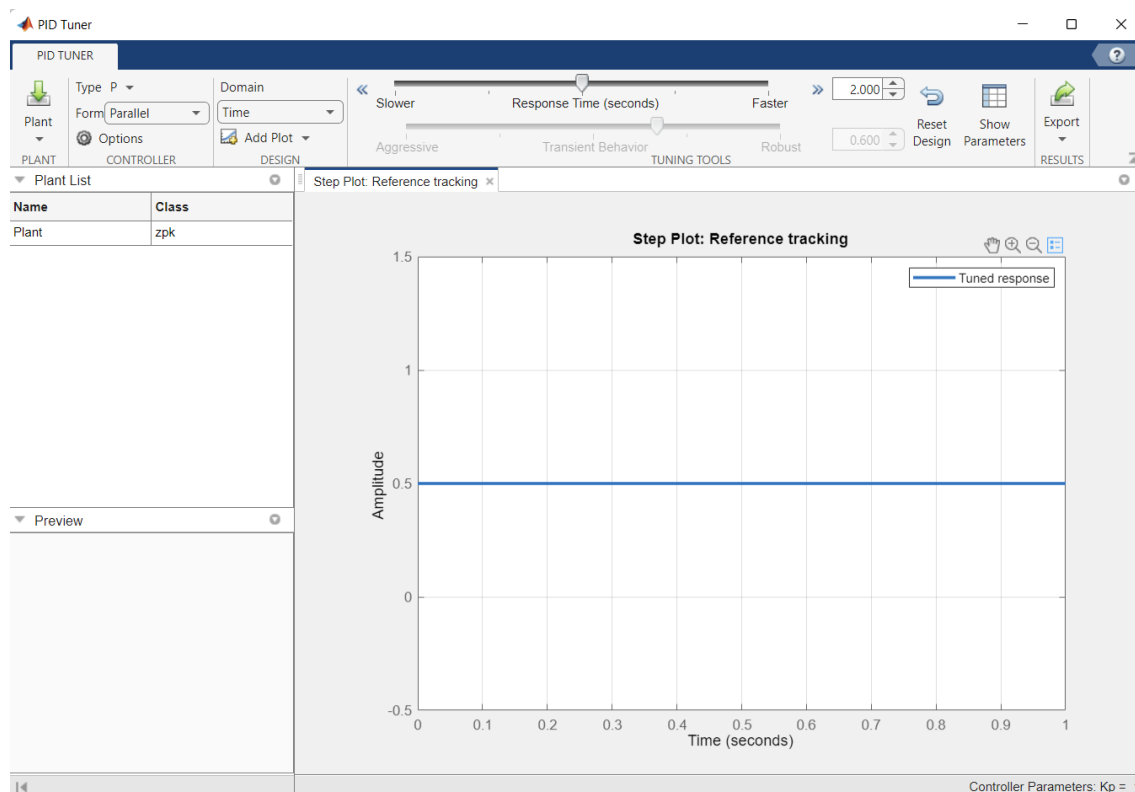

Figure 2: PID Tuner MATLAB app
2. To import the function into the app click the **Plant** button in the top left corner of the application shown in Figure 2. This will automatically detect the system in the workspace. Click Import.